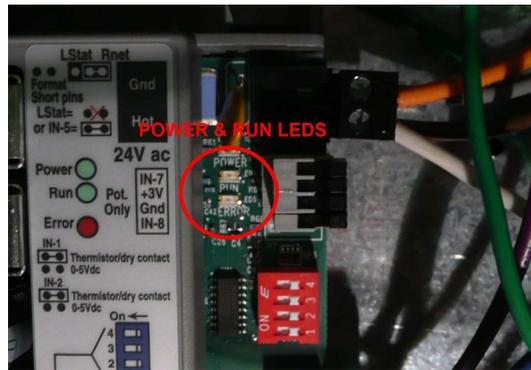

FIG. 4
2. Next provide power to the heater/controls unit by turning on the breaker. Confirm that the DDC controller has flashing lights in the upper right hand corner of the unit. A solid "power LED" indicates proper power supply and a blinking "run LED" indicates that the unit is functioning and running the program as expected. See Figure 4.